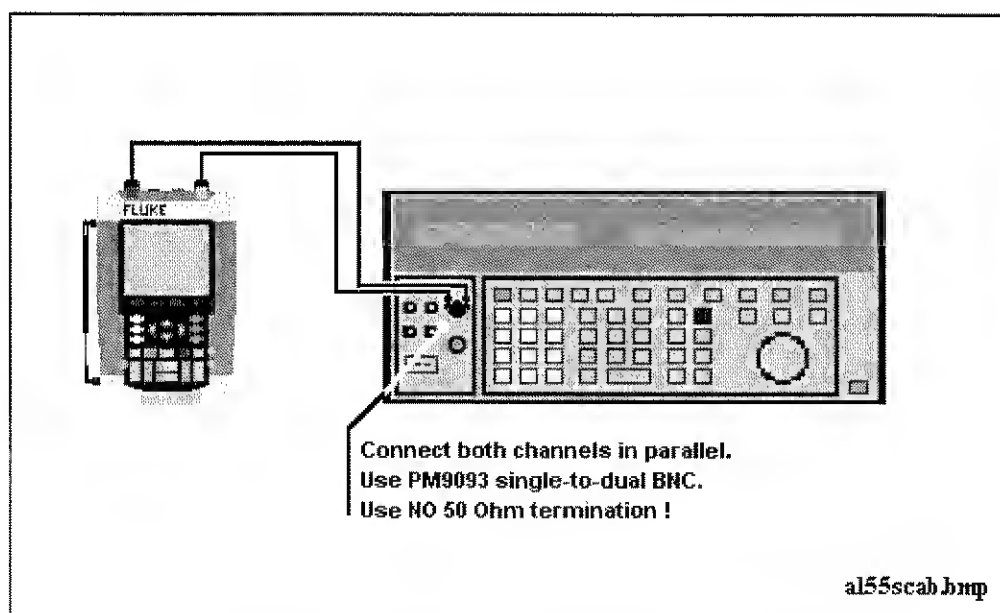

Figure 4-4. 5500 Scope Output to Test Tool Input A&amp;B
1. Connect the test tool to the 5500A as shown in Figure 4-4. Do NOT use 50  $\Omega$  terminations!
1. Connect the test tool to the 5500A as for the previous test (see Figure 4-4).